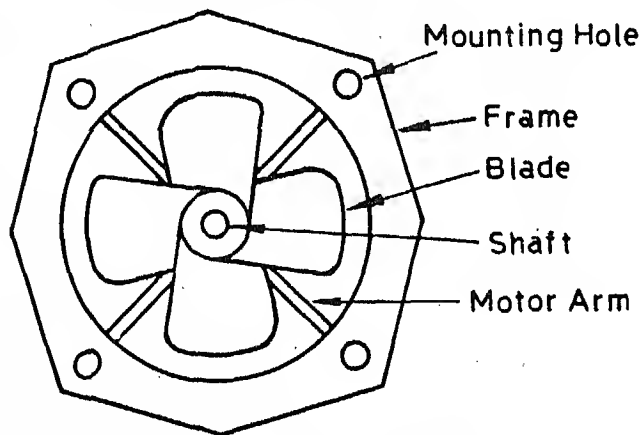

Fig.28.1 Front View of an Exhaust Fan.
- (i) Observe the fitting and parts of the exhaust fan as shown in Figs. 28-1 and 28-2.